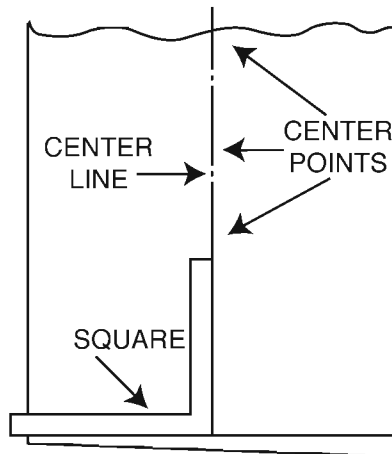

Fig.2
3. A large steel square is used to mark the transverse line at a point at which the belt is to be cut (see Fig. 2).
1. Determine average center line as in Fig. 2.